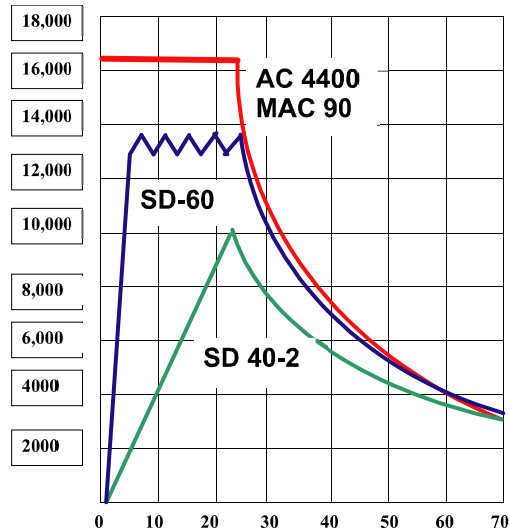

Figure 5. Dynamic Braking capabilities of various locomotives
**Example:** A standard SD 40 can produce 60,000 pounds of retarding force or a DB factor of 6. Some locomotive types or models can produce more retarding force per axle and others produce less. See Figure 5.